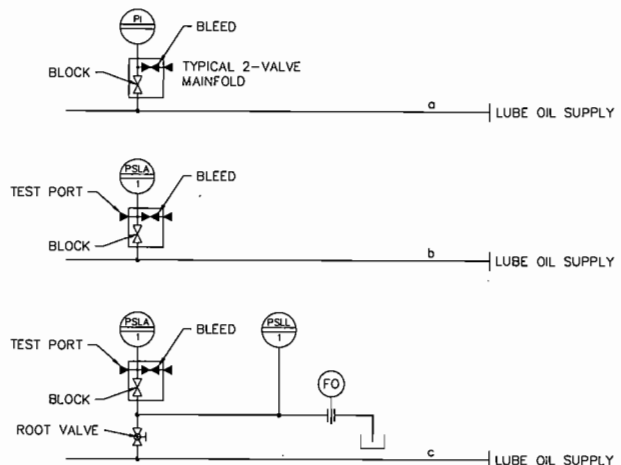

Figure 12. Instrument Valving.
- Suggested approach is per Figure 12 (a) allowing a continuous flow through the instrument tubing will result in a more accurate and repeatable set point.
- Install a test port as shown in Figure 12 (b) so the instrument can be checked and calibrated during operation.
- The data reflected in Figure 12 (c) are optimum for low ambient applications.
- Low ambient conditions are shown in Figure 12 (c).
- Applications with a test port are shown in Figures 12 (b) and (c).